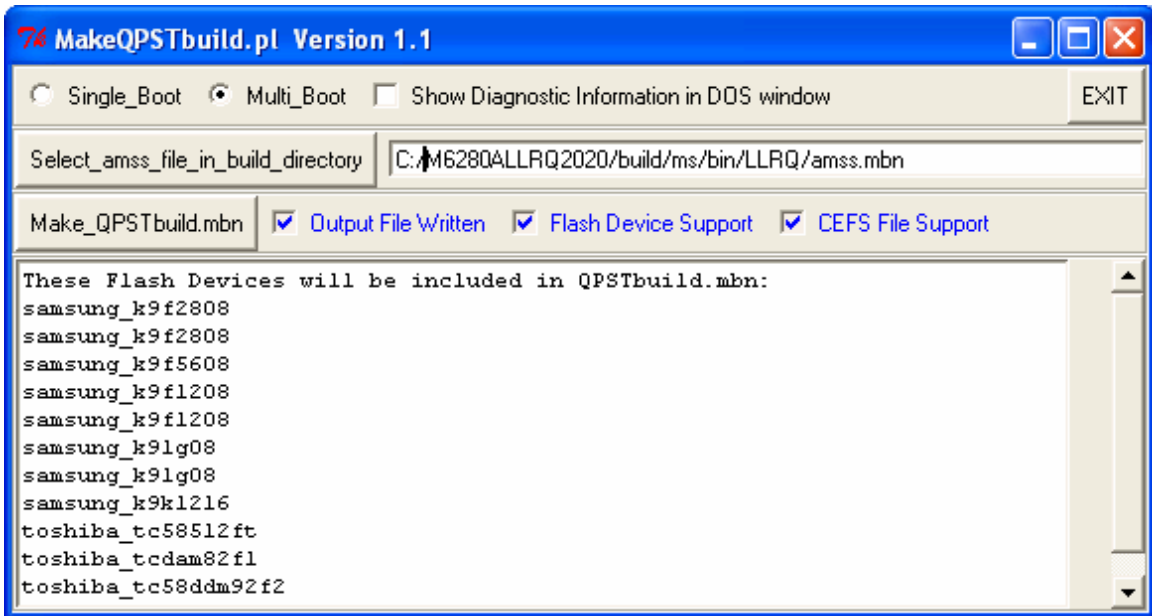

Figure 11-14 Make process results
7. Click MAKE_QPSTBUILD.MBN. The list of supported Flash devices will be displayed. Status checkboxes show the results of the make process (Figure 11-14).